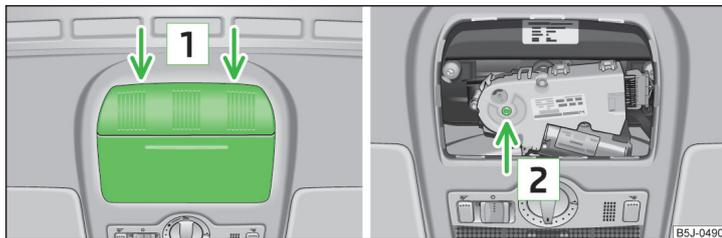

Fig. 39 Point for positioning screwdriver/opening for positioning the key
- Carefully insert an approximately 5 mm wide screwdriver into the slot in the positions shown by the arrows **1** » Fig. 39.